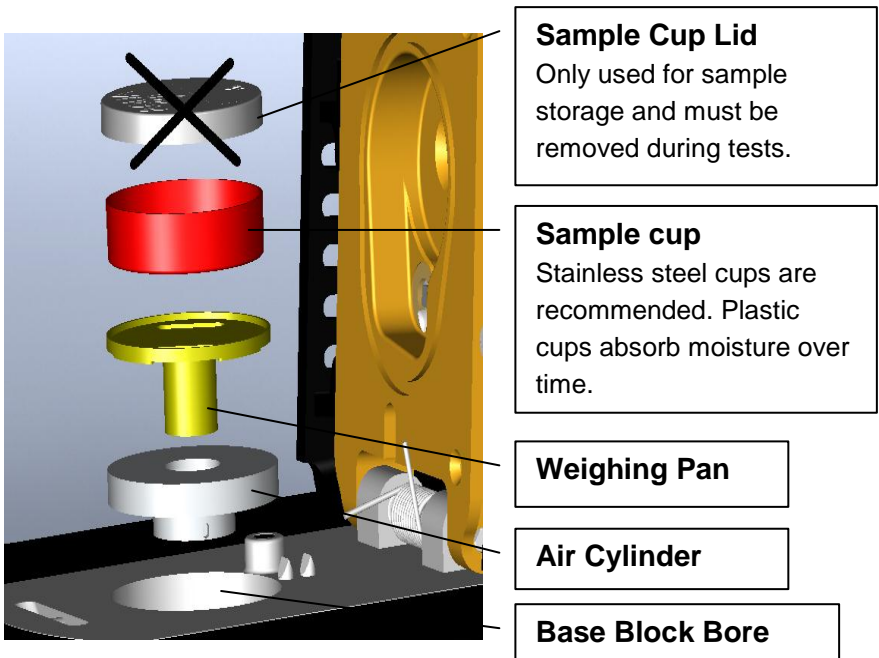

Figure 3: Sample cup and lower block assembly
5. Install the air cylinder and weighing pan. With the lid open, inset the air cylinder and weighing pan into the testing block as shown in Figure 3. These parts remain in the instrument continually and are only removed for maintenance. A sample cup is not inserted unless a test is going to be run. The air cylinder is placed into the bore of the base block. It should slide into the block easily and settle at the bottom of the bore. The weight pan connects to the scale and holds the sample cup. For best results, verify cleanliness of all parts and avoid dropping the parts as damaged parts may not slide properly and affect performance.